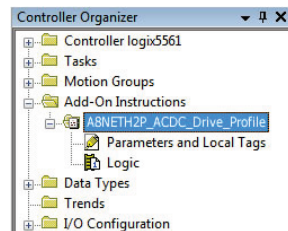

Figure 52: AC/DC Drive Profile Add-On Instruction
- 2) Right click on "Add-On Instructions" in the controller organizer view and select "Import Add-On Instruction". Browse and import the AC/DC drive profile add-on instruction. Refer to Figure 52.